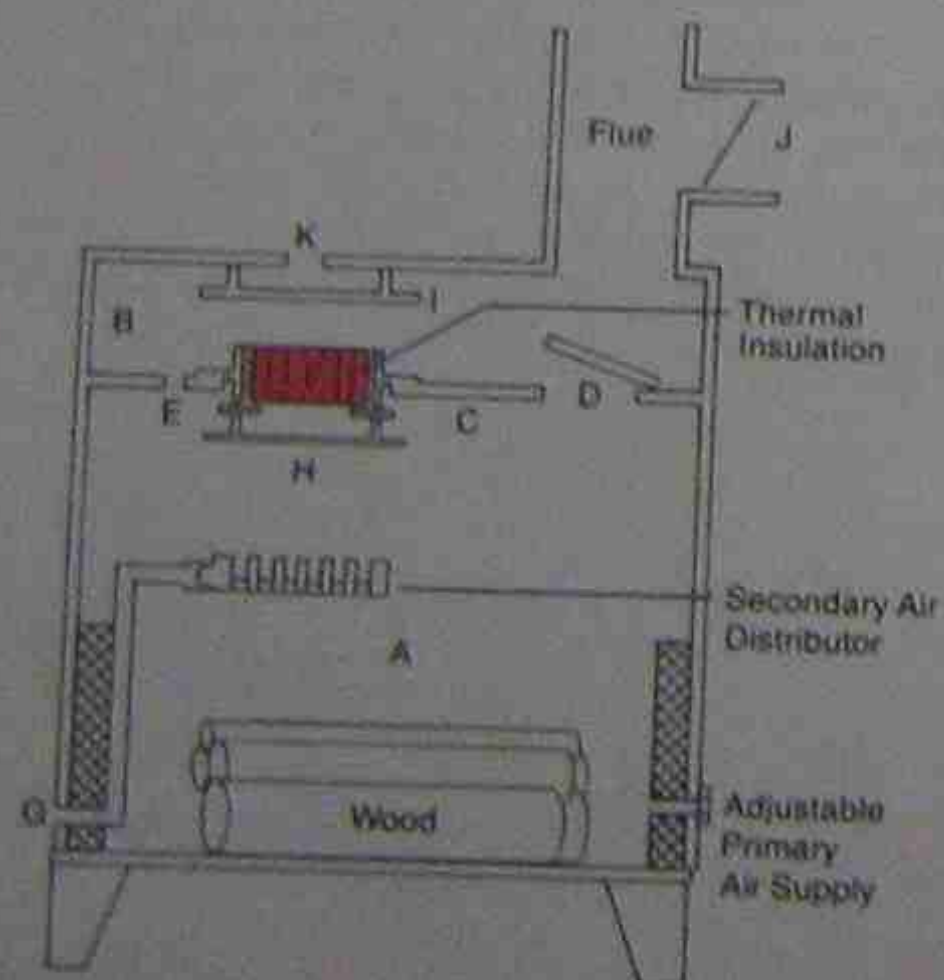

Figure 35-9. Illustration of wood stove with catalytic combustor. Courtesy Corning Glassworks
Figure 35-9 shows a typical stove design with a catalytic element (F). Following are brief descriptions of each component of the stove:
**Wood Combustion Chamber (A) (Firebox).**
**Heat Exchanger Area (B).** In the heat exchanger area, much of the heat from the firebox and combustor is transferred to the surface area and surrounding space before the gases are exhausted through the flue.
**Baffle Plate (C).** The baffle plate separates the firebox from the heat exchanger area. It contains the bypass damper (D), safety bypass (E), and combustor (F).
**Bypass Damper (D).** The bypass damper should be opened before opening the firebox door. The combustor restricts smoke exhaust. If this damper were not opened, smoke would come out the firebox door when opened. Most manufacturers recommend that this or a similar damper arrangement be opened when a hot fire exists. This allows the gases to escape and keeps the combustor from being damaged by the high fire and possible flame impingement.